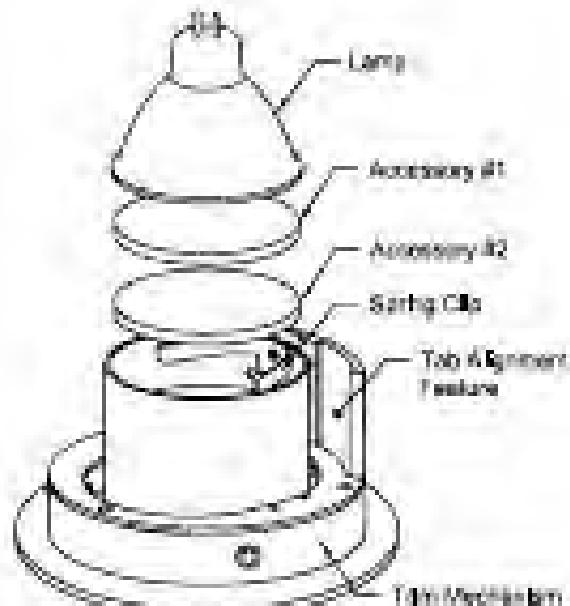
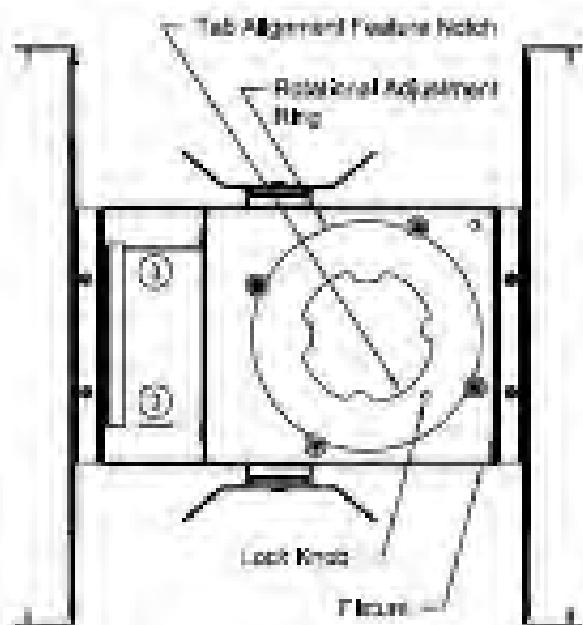

Figure 3
Figure 4
2. Slide out Lamp and/or accessories from under Bracket Arms to remove. See Fig. 3.
4. To ensure original light beam placement, align Tab Alignment Feature on Trim Mechanism (See Fig. 3 & 4) with Tab Alignment Feature on Rotational Adjustment Ring inside Picture (See Fig. 4).
3. Tighten Lock Knob inside Fixture to lock Rotational Adjustment Ring. See Fig. 4.